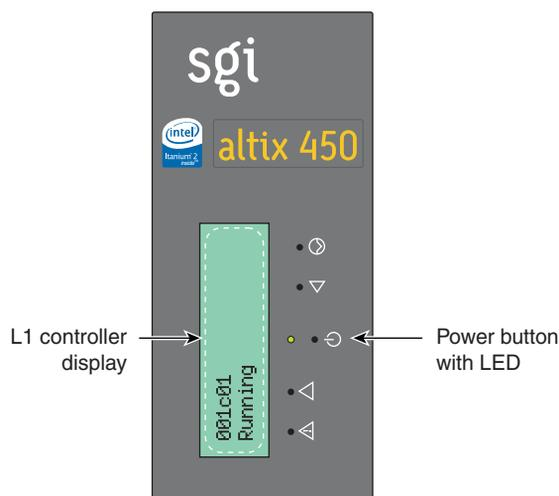

Figure 1-20 Location of the Power Button
3. Press the power buttons (see Figure 1-20) on each of the IRUs that you want to power on. Note that any optional storage modules should be powered up first.
- To power off the optional storage units, press the power button(s) on its rear panel to the OFF (O) position.
- To power off the IRUs, press the power button with the LED on the front panel of each unit (see Figure 1-20 on page 41).